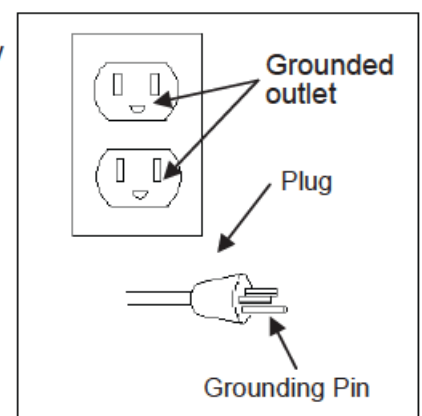

Figure 1
- J. POWER CORD:** This product is for use on a nominal 120-volt circuit and should be grounded. A cord with a grounding plug as illustrated must be used. Make sure that the product is connected to an outlet that has the same configuration as the plug (see Figure 1). No adapter should be used with this product.